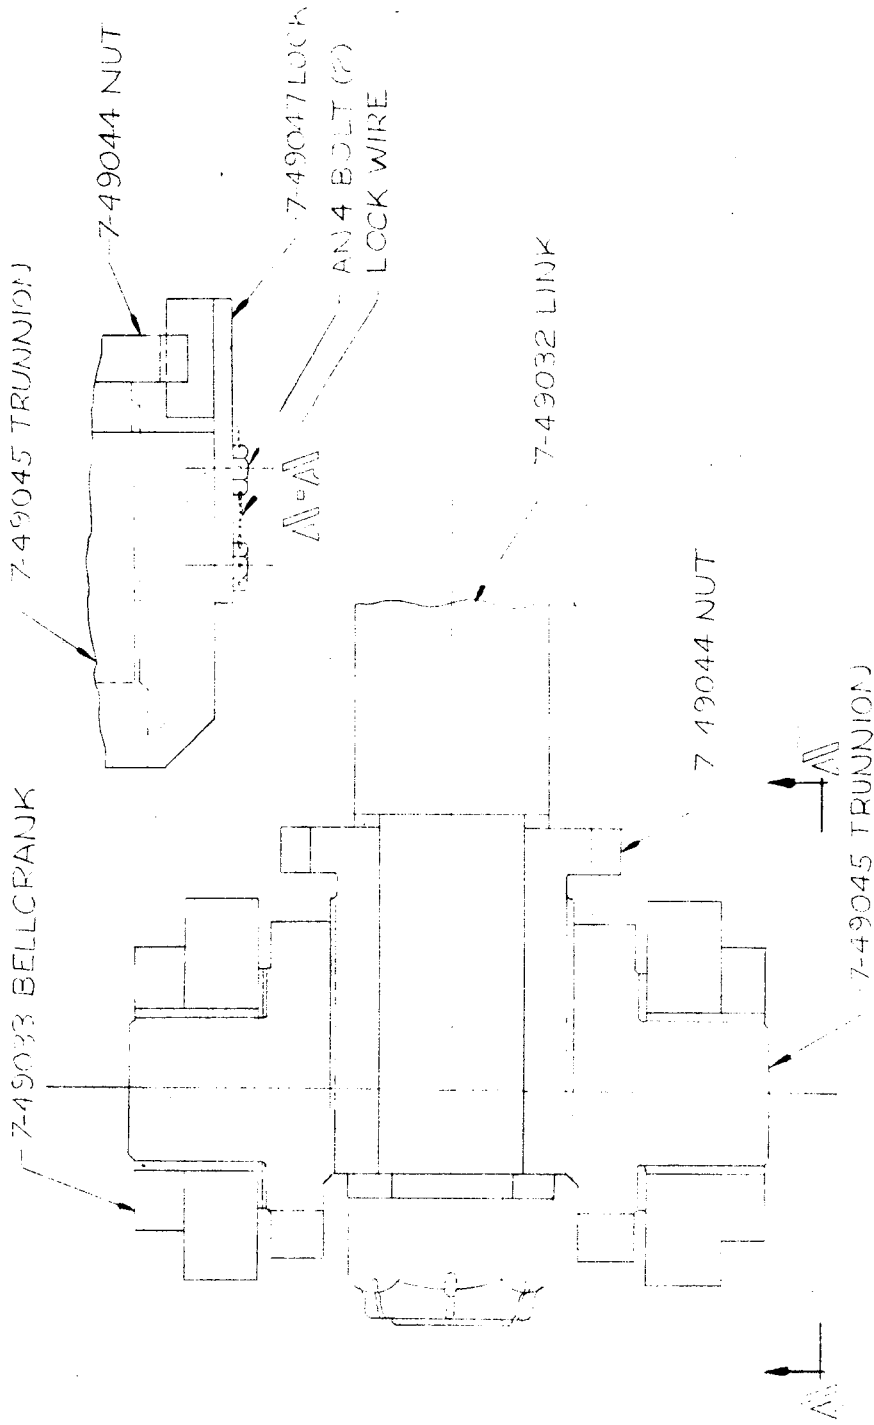

FIGURE 4-16 MISSILE SUPPORT PIN ADJUSTMENT
c. Remove lock wire and AN4 bolts (2) holding 7-49047 lock to bottom of 7-49045 trunnion block. See Figure 4-16.